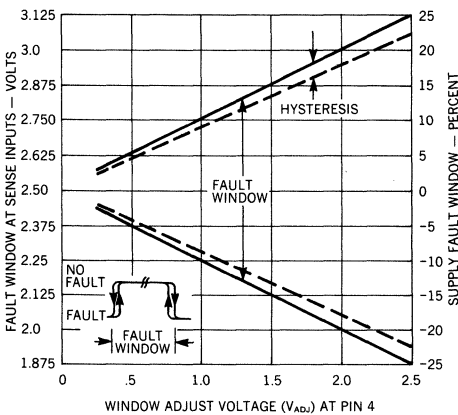

Figure 2. The fault window and threshold hysteresis scales as a function of the voltage applied at Pin 4, the window adjust pin.
When a sense input moves outside the fault window given in equation (1), the appropriate hysteresis control signal turns off Q₄ or Q₅. For the under-voltage case, Q₅ is disabled and current source I_{0B} flows through D₂. The net current through R₇ becomes zero as I_{0B} cancels I_{0C}, giving an 8% reduction in the UV threshold offset. The over-voltage case is the same, with Q₄ turning off, allowing I_{0D} to cancel the current flow, I_{0A}, through R₆. The result is a hysteresis at the sense inputs which is always 8% of the window magnitude. This is shown graphically in Figure 2.